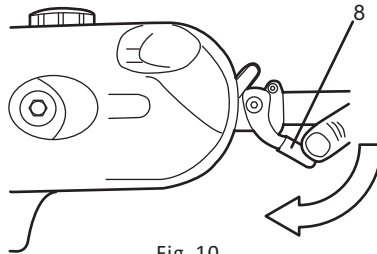

Fig. 10
a). Press the locking lever (8) downward and hold it in position. (See Fig. 10)